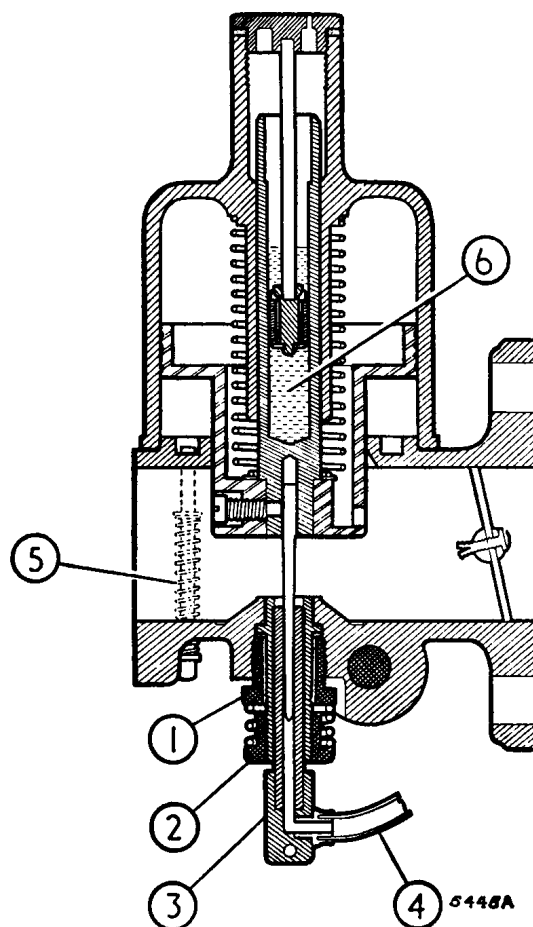

Fig. BBB.6
When the suction piston is lifted by the spring-loaded piston lifting pin it should fall freely and hit the inside jet bridge with a soft, metallic click—that is, with the jet adjusting nut (2) (Fig. BBB.6) in its topmost position.
- (3) Slacken off the large jet locking nut (1, Fig. BBB.6) until the jet bearing is just free to rotate by finger pressure.
- (4) With the damper removed and using a pencil on top of the piston rod, gently press the piston and needle down onto the jet bridge.
- (5) Tighten the jet locking screw, observing that the jet head is still in its correct angular position.
- (6) Lift the piston and check that it falls freely and evenly, hitting the jet bridge with a soft, metallic click. Then fully lower the jet and re-check to see if there is any difference in the sound of the impact; if there is and the second test produces a sharper impact sound, the centring operation will have to be repeated until successful, the nut and lock spring being replaced after the conclusion of the operation.